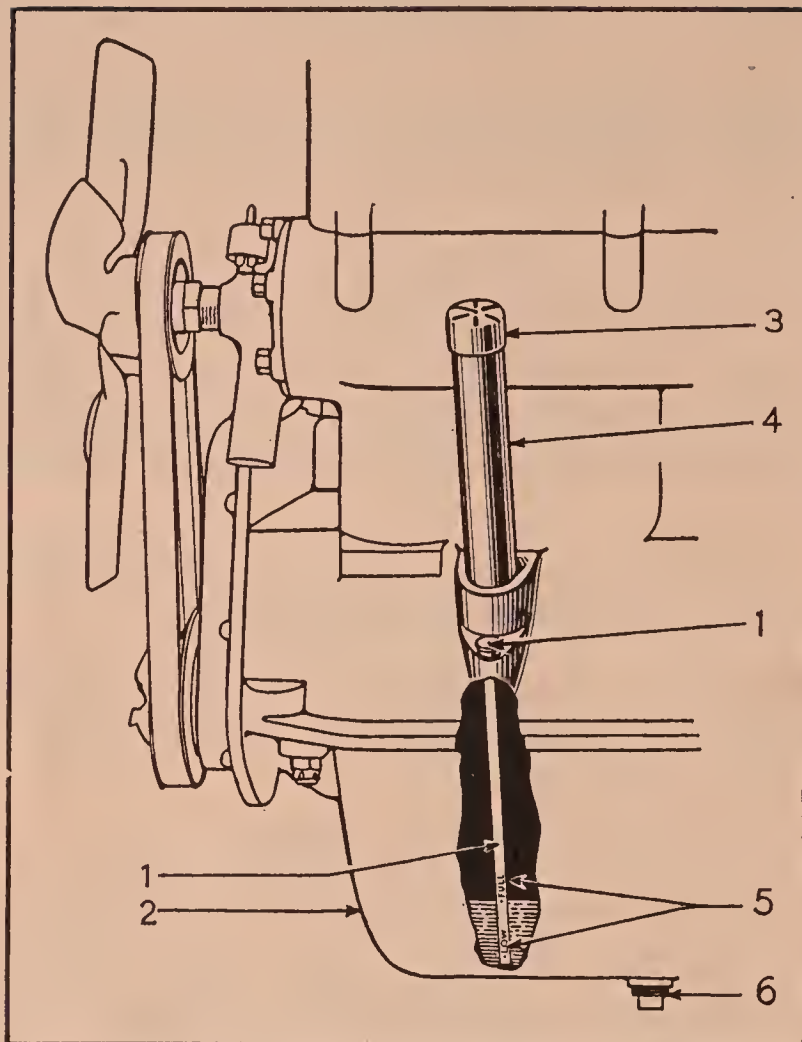

Fig. 5 Oil Level Gauge and Oil Filler Tube
1. Ascertain the oil level by means of the oil level gauge (1, fig. 5). Add sufficient oil to bring the level to **FULL** on the oil level gauge rod.